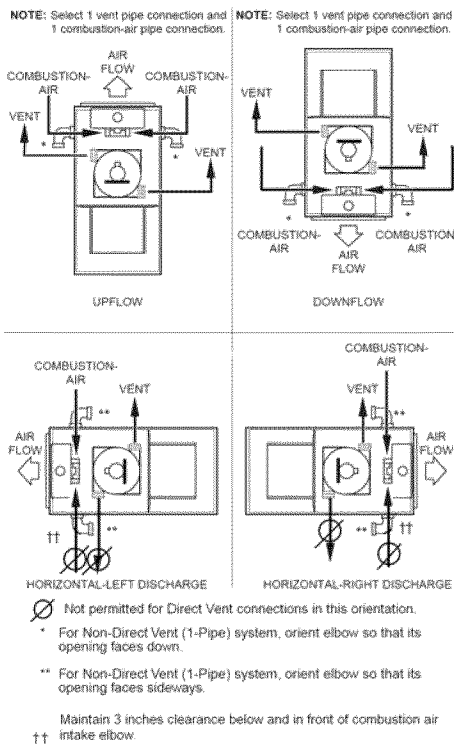

Fig. 38 - Combustion-Air and Vent Pipe Connections
Furnace combustion-air connection must be attached as shown in Fig. 38. Combustion-air intake housing plug may need to be relocated in some applications.
For Non-Direct Vent (1-Pipe) system, combustion-air must terminate outside of furnace casing with 1 elbow. Orient elbow so that its opening faces down for upflow or downflow applications. Orient elbow so that its opening faces sideways (left or right) for horizontal left or horizontal right applications (See Fig. 38.) Maintain a 3-in minimum clearance between the opening of the combustion-air inlet pipe and any object.
1. Determine location of combustion air intake pipe connection to combustion air intake housing as shown in Fig. 38 for application.
4. Insert assembled combustion air inlet pipe into intake housing as shown in Fig. 38.
Furnace vent connection must be attached as shown in Fig. 38.